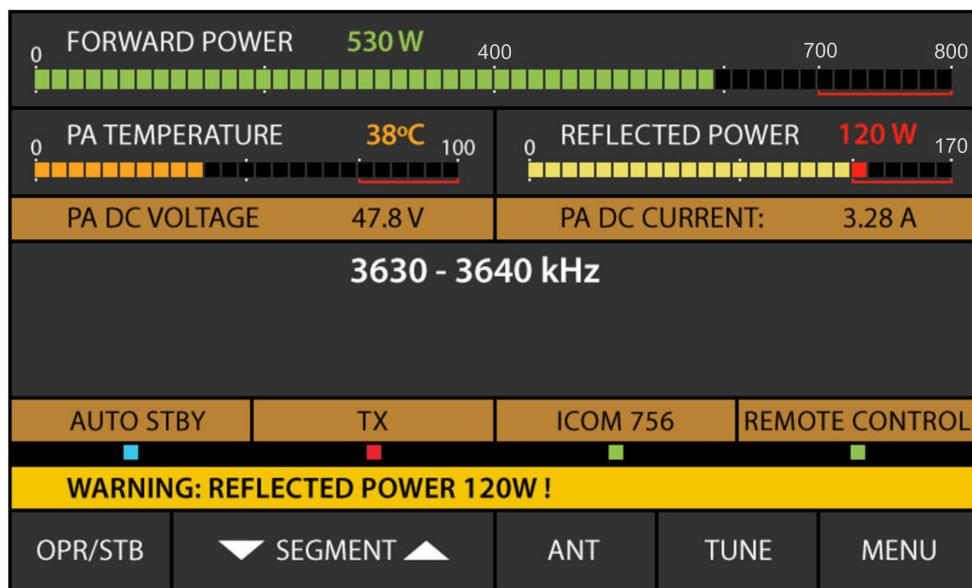

Fig. 4-1 – Appearance of an alarm message
In the event a parameter maximum is exceeded, the amplifier will assess the risk and will trigger one of the three levels of protection, as described in items (a) to (c) below. Every event is accompanied by a warning text on the screen (Fig. 4-1). A sound alarm will be also produced, if set on in the “USER PREFERENCES” – fig. 5-4.
- The first protection level is WARNING. When a value watched by the control unit approaches the protection threshold, the transmission is not interrupted, but a message appears – for example “Drive Power too High”, “Drain Current too High”, or another – Fig. 4-1.